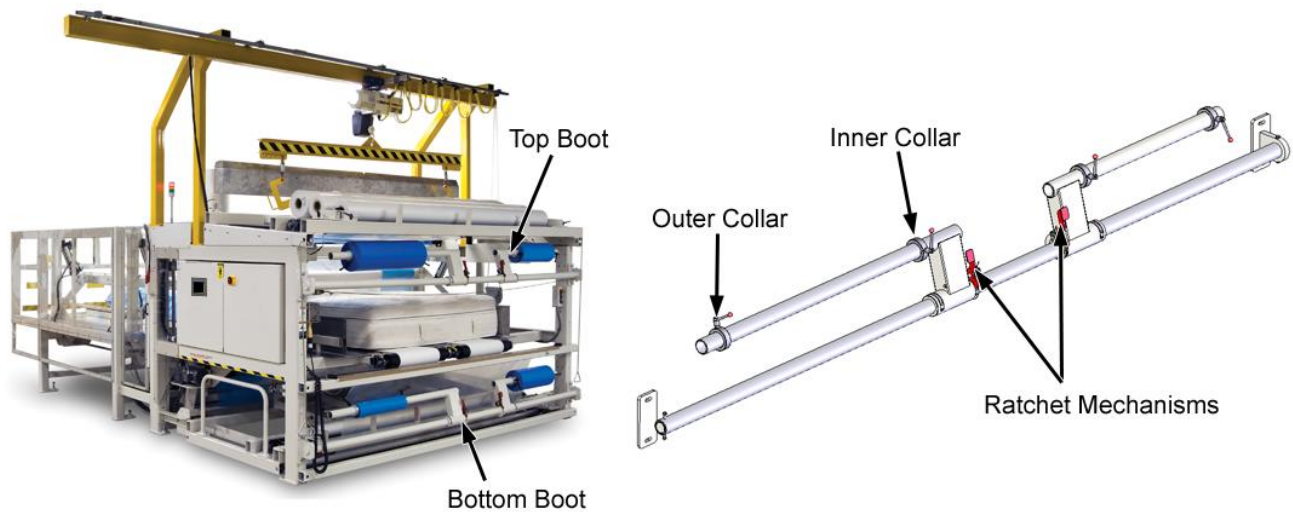

Figure 10
The standard 1390BA machine comes with (4) Boot film Support Bars. See Figure 10. They are pivot mounted on a main support and each have a ratchet type mechanism. This design allows the operator to easily rotate the bar down to a lower, more ergonomic loading position. Once loaded, it is easy to rotate the boot roll into its working position. In addition, for more ergonomic loading, all boots load from outside - in. **Important note! All boot rolls must be loaded to unwind from the top of the roll.**